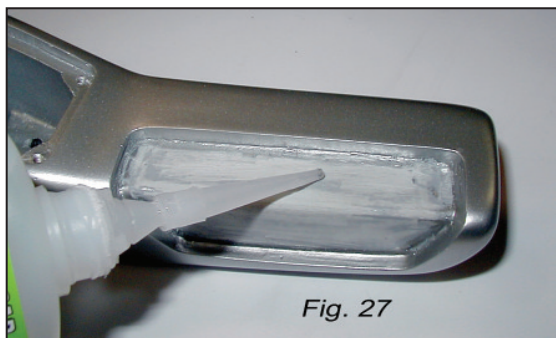

Fig. 27
**Step 12:** Glue these pieces one at a time using either epoxy or cyanoacrylate glue, depending on how much of a gap you have inside your joints [Figs. 27 through 31]. Be sure you do not get glue on any outer exposed surfaces. Allow to cure before handling further.